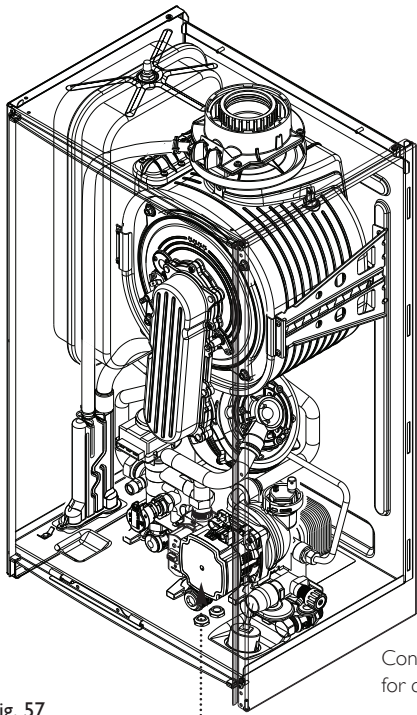

Fig. 57
13.11 Pump - Complete (Figs. 57 & 58)
13.12 Automatic Air Vent (Fig. 57)